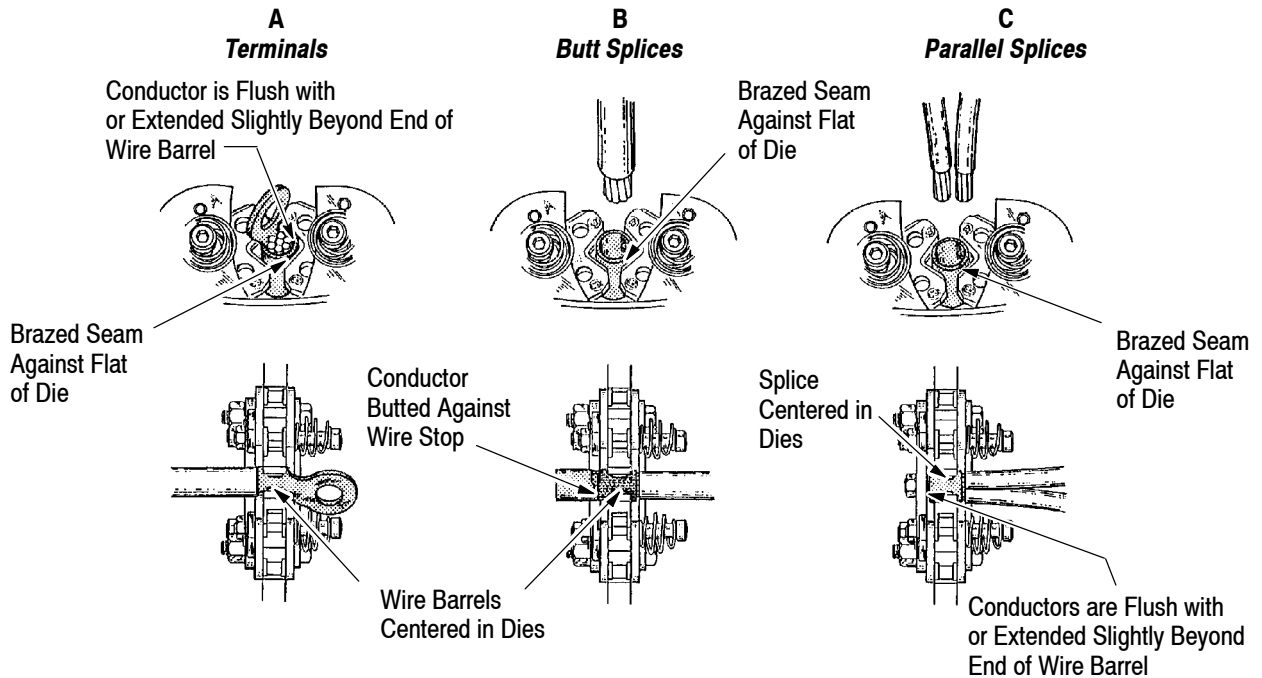

Figure 3
3.3. Performing a Single Crimp on Wire Sizes 8 Through 4 (Figure 3)
1. Center the wire barrel of the terminal or splice in the dies. For best results, position the brazed seam against one of the "flats" of the dies, as shown in Figure 3.